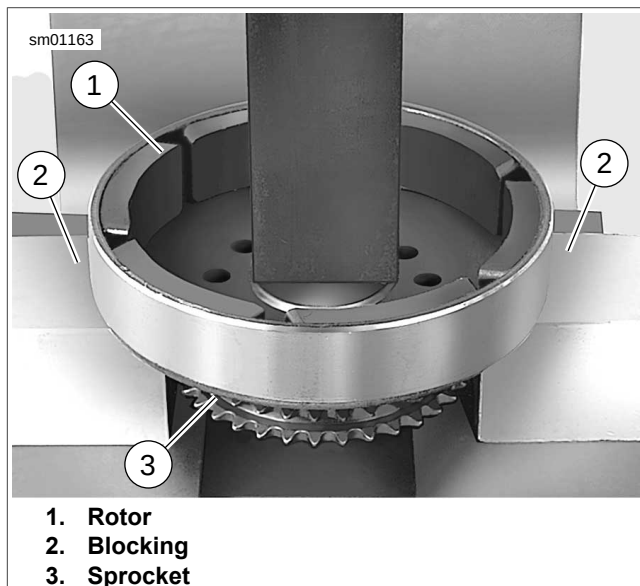

Figure 6-98. Removing Rotor from Sprocket (XL Models Only)
2. See Figure 6-98. Position blocking (2) under rotor (1). Press sprocket (3) free of rotor.